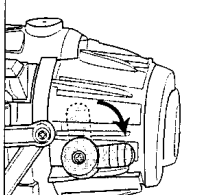

Fig 14
1) Close and lock the Rocket Motor Valve by moving the Valve Set Lever from the vertical position to the horizontal position. It will automatically return upright on it's own. (Fig 14)